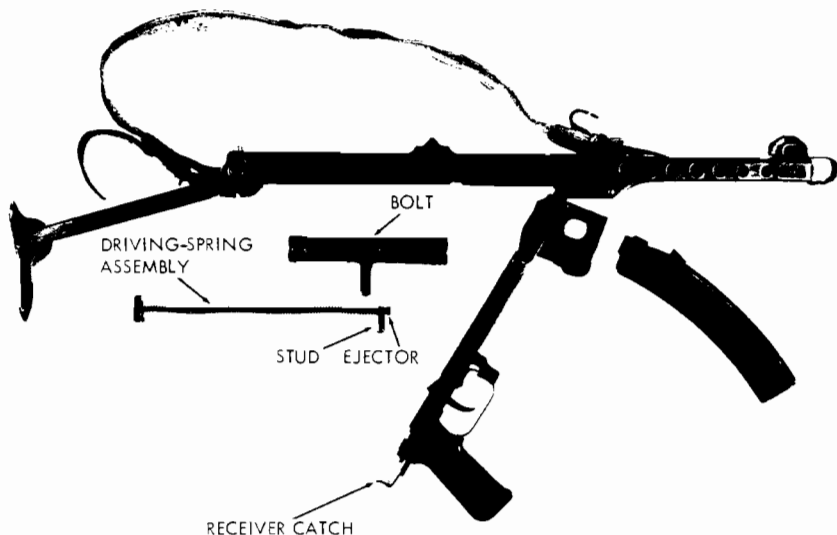

Figure 19. PPS-43, field-stripped.
- b. Press in on the receiver catch at the lower rear end of the receiver, then swing the lower receiver down (fig. 19). Pull the operating handle slightly rearward and then swing the bolt downward, out of the receiver. Pull the driving-spring assembly out of the bolt.